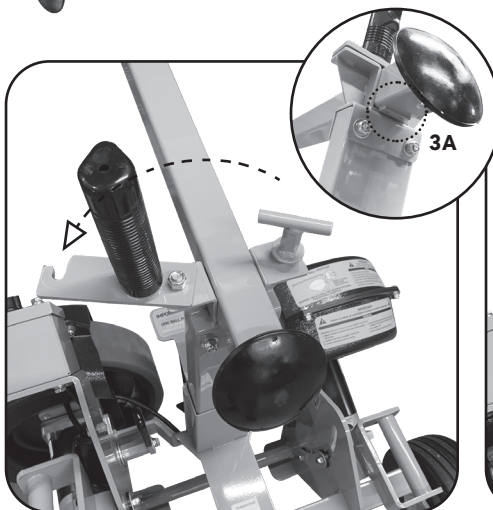

Figure 3 Open latch to insert snapping leg support. Snapping leg should rest on stopper (3A).
1. Using knobs (See Figure 3, pg. 6) which are stored on bolts, attach throwing head to undercarriage, tighten wing nuts knobs securely to undercarriage.